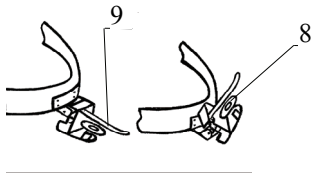

Fig.2 Headgear
You can raise the unit up for unobstructed vision without taking the headgear off by using the “flip/flop” feature (Fig. 2). To do so: press the lever (9) and raise the device into vertical position, until you hear a click.
Turn on the device. Direct the device at an object placed within 8-15 m from the viewer. Obtain the sharpest image possible on the eyepiece screen by focusing the eyepiece lens (3) and then the objective lens (7, Fig.2).